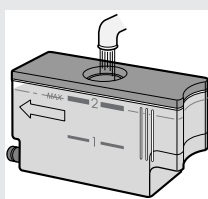

Figure 2
3. Fill the reservoir with fresh cold tap water through the lid to the 2 mark each time you begin to cook (Figure 2). Do not fill the reservoir over the 2 mark.